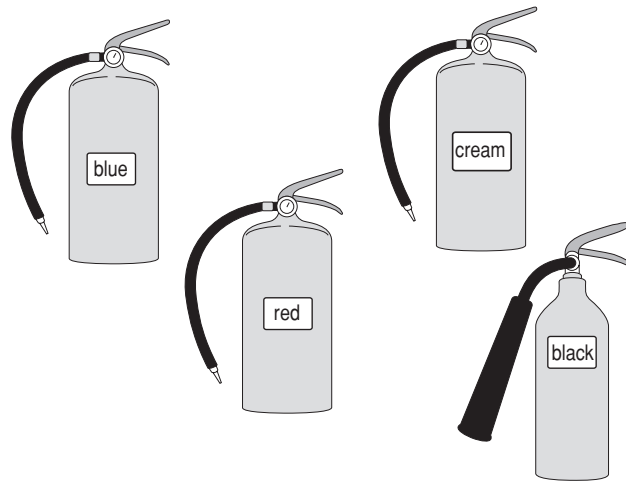

Figure 2
- (4) Identify the contents of each of the fire extinguishers shown in Figure 2 and give examples of their fire preventive uses. (Page 27.)